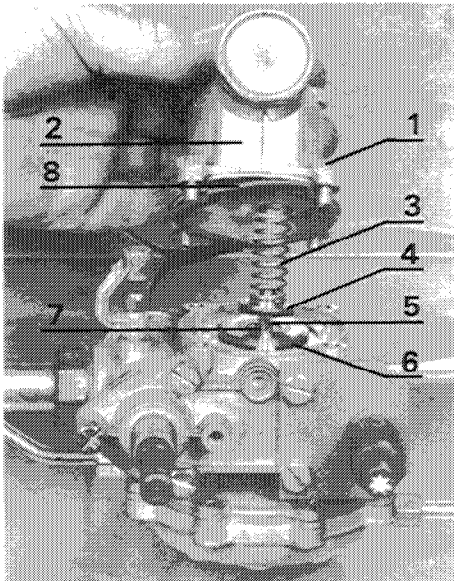

Fig. 21
- b) Remove four screws (1, fig. 21) securing governor housing to gas section.
- c) Lift off and remove governor housing (2, fig. 21).
- main gas valve spring (3, fig. 21)
- first stage gas valve (4, fig. 21)
- first stage gas valve spring (5, fig. 21)
- main gas valve (6, fig. 21)
- e) Withdraw main gas valve spindle (7, fig. 21) and remove all grease using lint free cloth. Re-grease using silicone and reposition in gas valve.
- g) Renew gasket (8, fig. 21) between governor housing and gas valve body.